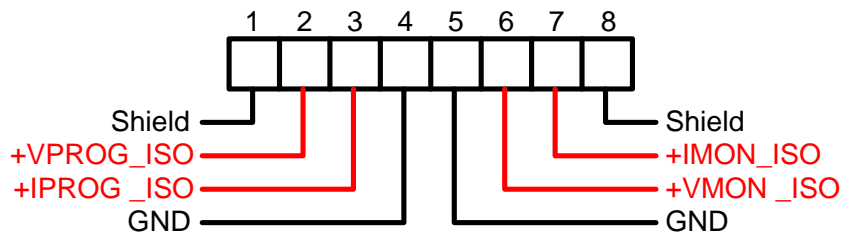

Fig.7-1: Isolated Programming & Monitoring connector
- ◆ Refer to Fig.7-1 for description of the connector.